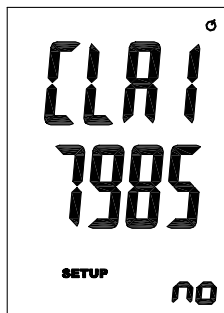

Fig. 5 Screen shows 17,985 readings left in memory.
2. Use the **▲/T1–T2/T3–T4** and **Hold/▼** buttons to scroll to the **CLR memory** option screen (Fig. 5). The screen indicates the number of sample points remaining.
3. Press **Rec/Enter** button and “No” appears on the screen. (Fig. 5)